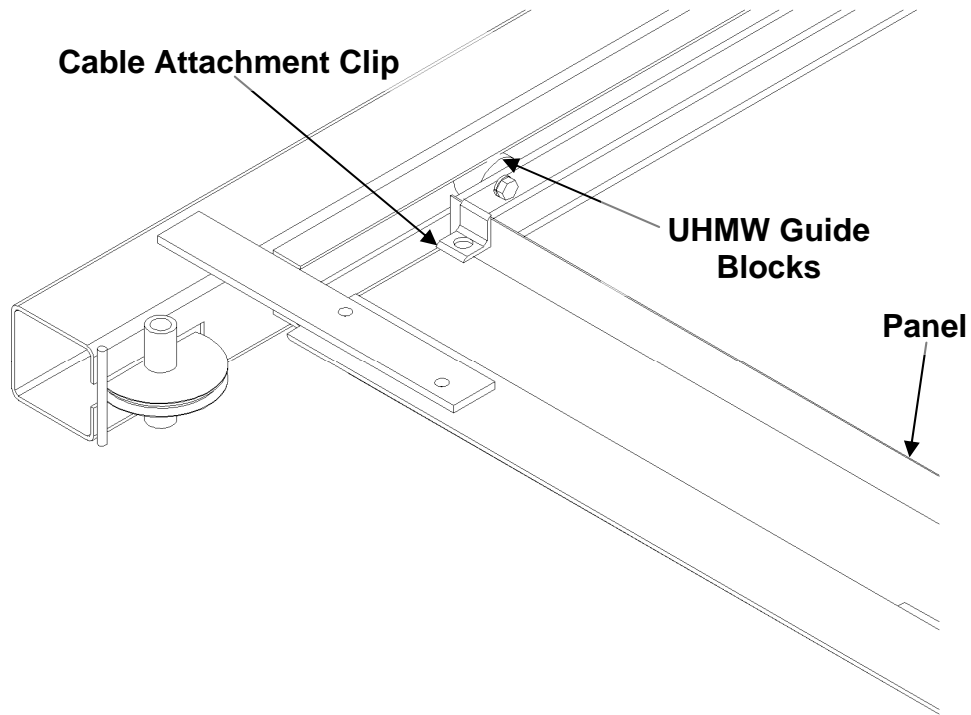
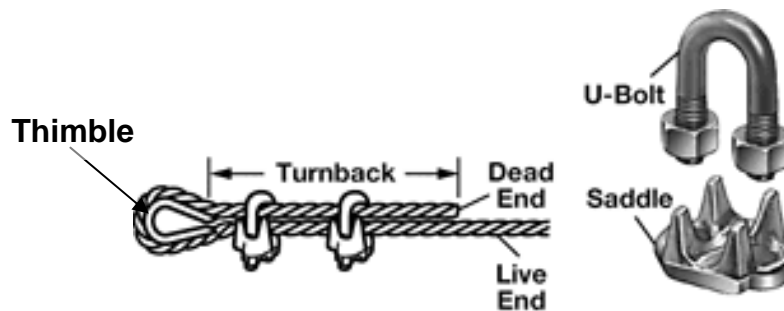

Figure 8 - Cable Attachment Clip
Figure 9 – Lifting Cable Attachment
4. Place the gate panel on the floor between the gate posts. Make sure that the handle is down and the cable attachment clips are toward the gate header (see **Figure 8**).
5. Slide the gate panel to the top of the gate posts and attach the lifting cables to the cable attachment clips (**Figure 8**) with the thimbles and single saddle clips supplied. To install single saddle clips, position the saddle on the "live" or long end of cable, and the U-bolt on the "dead" or short end of the cable (see **Figure 9**).